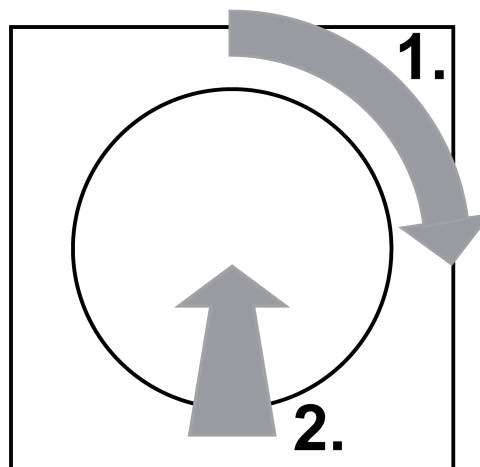

Figure 2: Switch on at maximum brightness
- Turn the setting knob through a quarter turn in a clockwise direction, then press the setting knob briefly (figure 2): Light is switched on at maximum brightness.